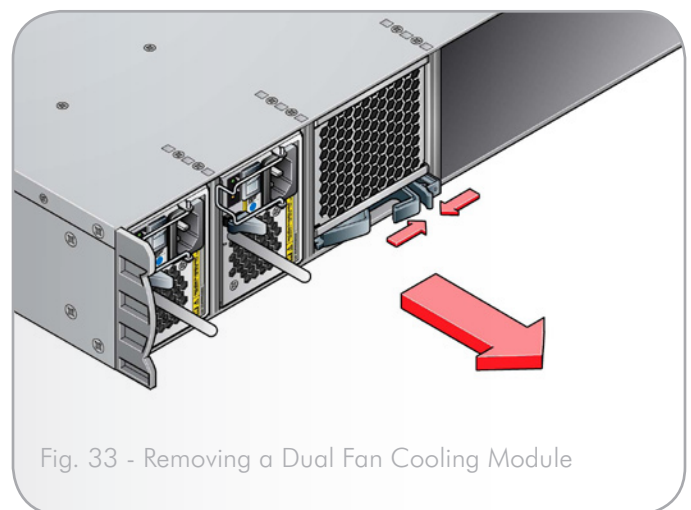

Fig. 33 - Removing a Dual Fan Cooling Module
2. Pull the latch outward to cam the module out of the enclosure (Fig. 33).